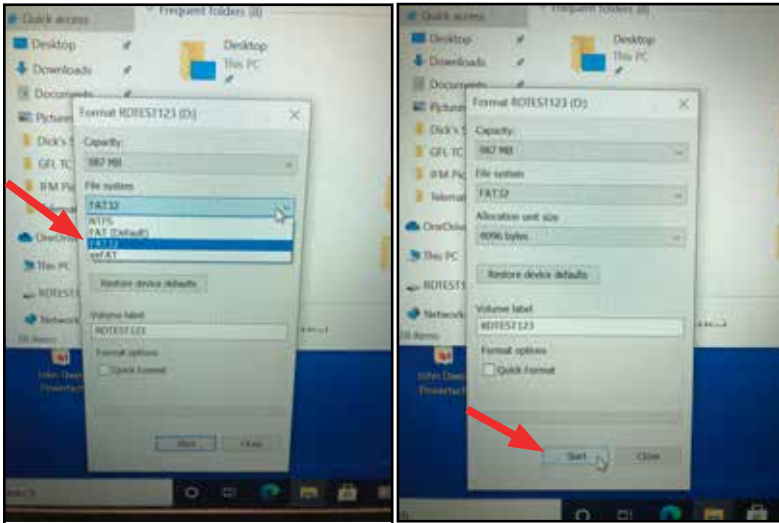

Figure 4
6. Click “Start” at the bottom of the window. See Figure 4.